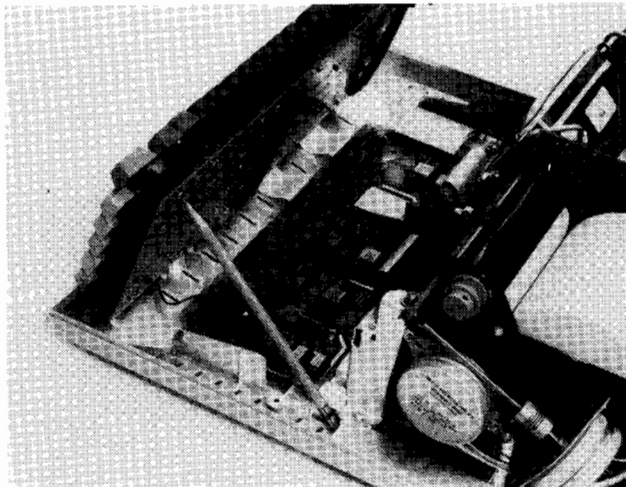

Figure 4-1. Keyboard Assembly Propped Up
- b. Prop the keyboard up so that you can access the keyboard controller. (See figure 4-1.) Do not remove the keyboard from the bottom case. Leave the original ribbon cables connected at both the logic PCA and the keyboard PCA; do not substitute extender cables.